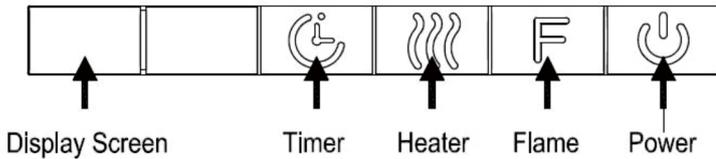

Fig.3
2. Using the remote control(Fig.4), functions same as control panel(Fig.3).